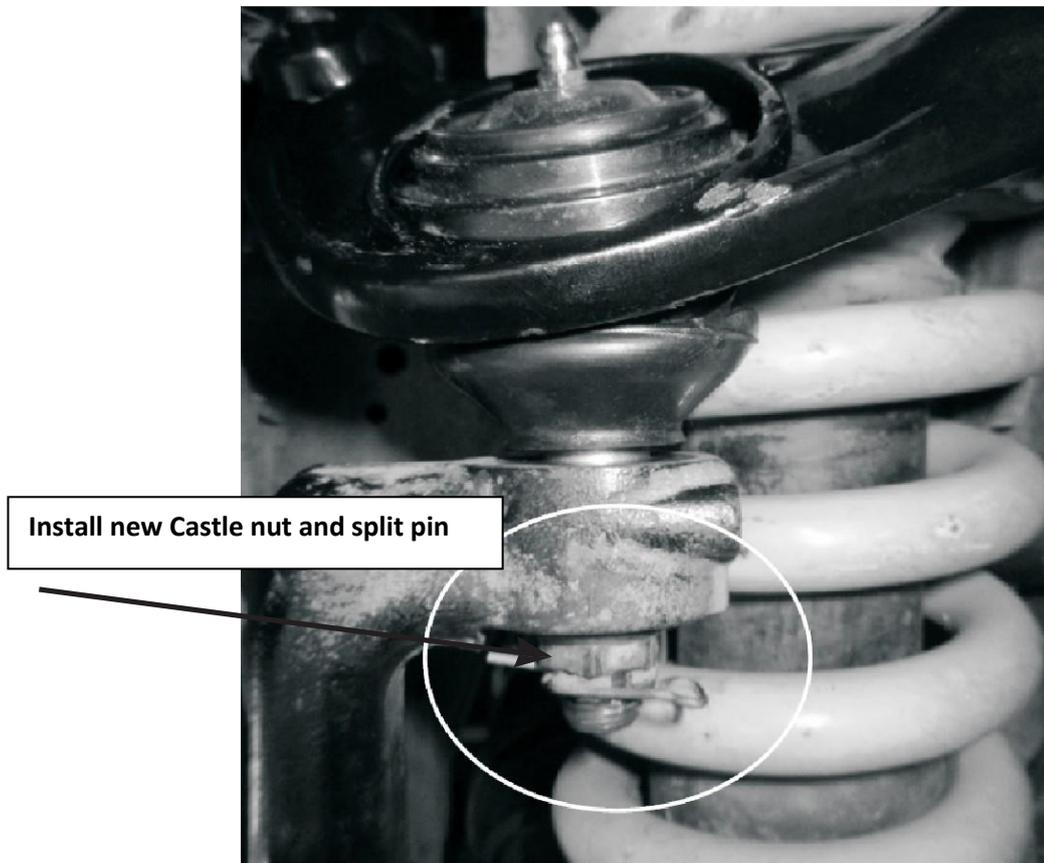

Fig 9
8. Install the control arm to the vehicle see Fig 9 **Torque bolt-nut to 115 Nm**
9. Insert the ball joint stud into the spindle, install the new Castle nut and **torque to 110Nm**. Tighten further until the new split pin can be installed. Fig 9